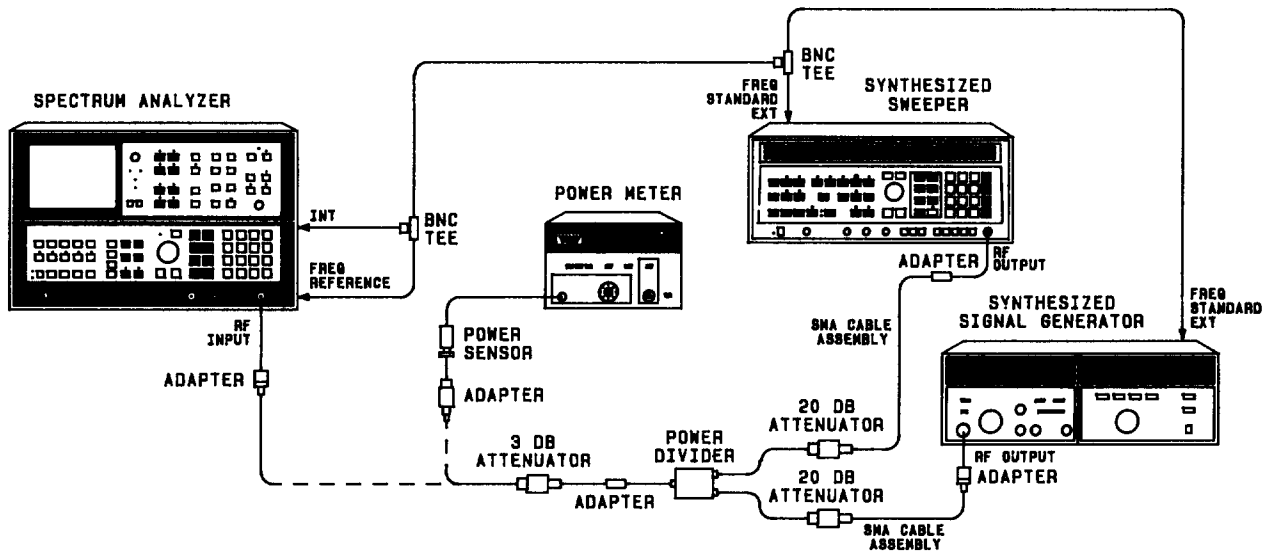

FIGURE 29. INTERMODULATION DISTORTION TEST SETUP
27. Connect equipment as shown in Figure 29 with "output" of power divider connected to power sensor. The **FREQ REFERENCE** switch on the rear panel of the analyzer should be set to INT and the **FREQ REFERENCE** switch on both synthesized source rear panels should be set to EXT.
31. Connect output of power divider to analyzer **RF INPUT** as shown in Figure 29.
42. Connect the output of the power divider to the power sensor as shown in Figure 29.
44. Connect the output of the power divider to the analyzer input as shown in Figure 29.